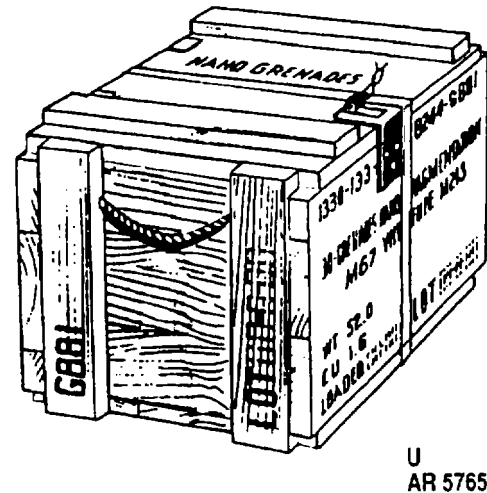

Figure 3-11. Typical outer packing and markings.
(4) Assure box is marked with proper item nomenclature and lot number, as in figure 3-11.
(5) Close box, secure hasp, and band box.
Data normally appearing on grenade outer pack are illustrated in figure 3-11.